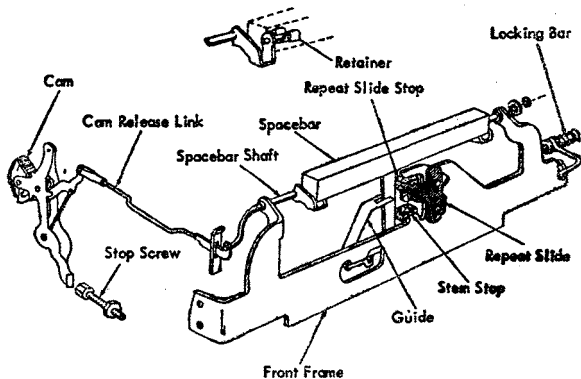

Figure 9. Spacebar Mechanism
trips the cam which in turn activates the escapement as in previous machines. The spacebar is restored to its rest position by a flat spring, mounted to the front frame by an adjustable support, which bears up against the spacebar stem (Figure 9).
1. **CAM CLEARANCE.** Adjust cam to power roll clearance at .010" to .015" using the adjustable-stop screw (Figure 9). Check by releasing the cam with the power OFF. The release-lever lug should rest on the rear half of the cam lug.